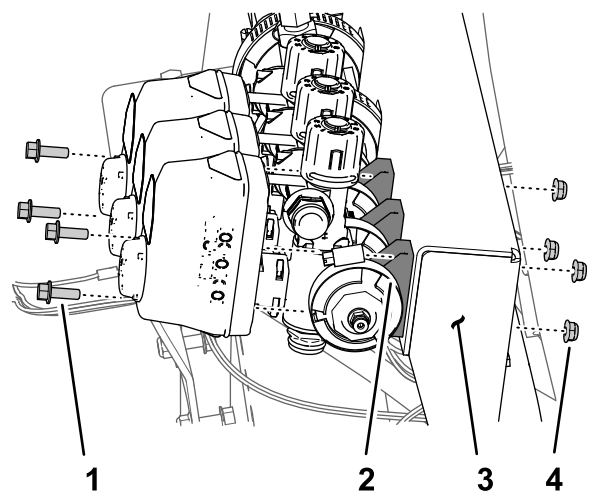

Figure 66
1. Remove the 2 flange-head bolts (1/4 x 3/4 inch) and 2 locknuts (1/4 inch) that secure the left boom-section valve to the manifold mount (Figure 66).
2. Remove the 2 flange-head bolts (1/4 x 3/4 inch) and 2 locknuts (1/4 inch) that secure the right boom-section valve to the manifold mount (Figure 66).